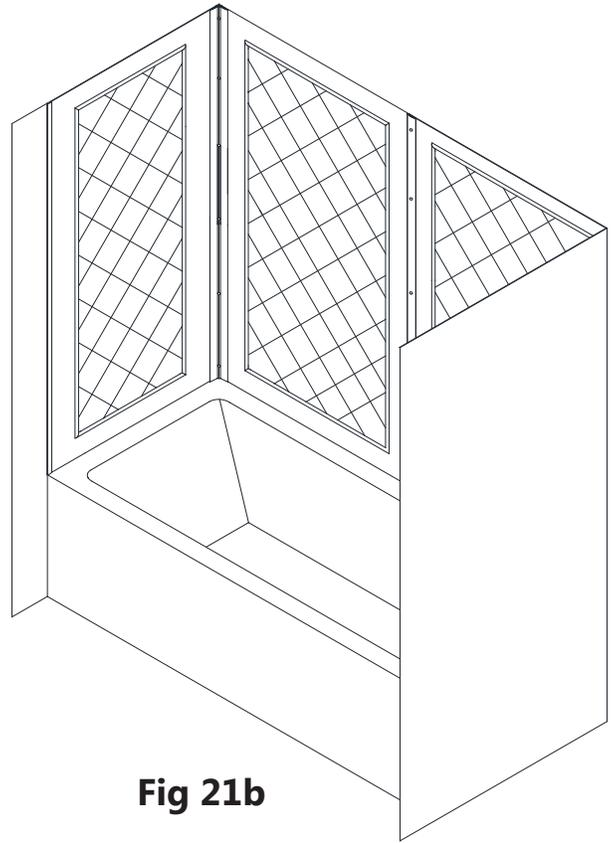

**Fig 20**
**20.** Apply adhesive to the entire back surface of the **Side Panel (#01)** for the opposite side wall installation. Use the same technique to apply pressure over the entire surface and make the top edge even with the adjacent acrylic wall panel. (**Fig 20**)